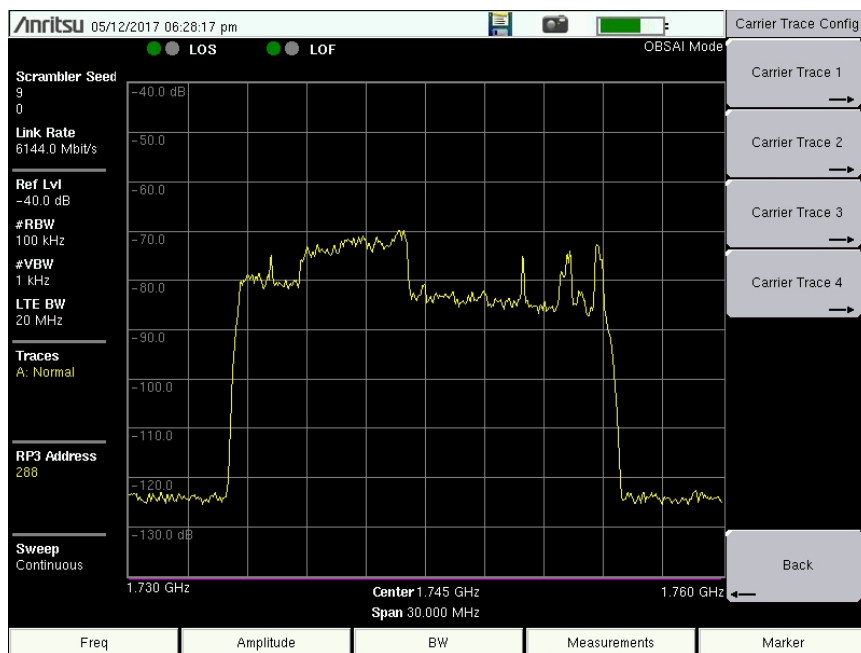

Figure 2-5. Sample Spectrum Display
3. Before proceeding to the next step, verify that you have at least one active OBSAI link (LOS and LOF indicators above the trace window are both green). See Figure 2-5.
5. If valid RP3 addresses are detected, the first address in the list is displayed as Carrier Trace 1 in a Spectrum view similar to Figure 2-5. The display bandwidth is set to match the LTE bandwidth of Trace 1.